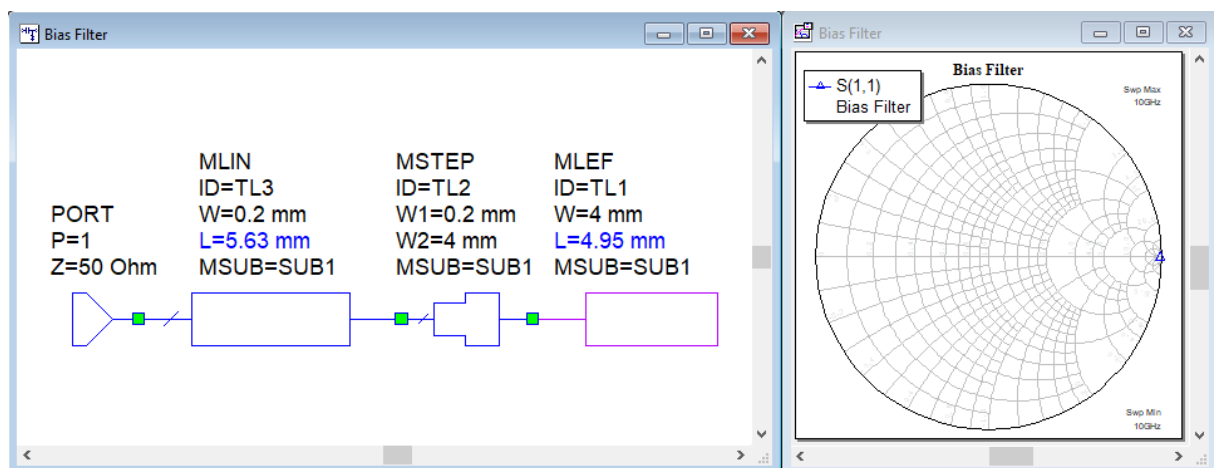

Fig. 9 Series combination of high- and low-impedance transmission line sections forming a bias filter acting as an open circuit at design frequency.
- Add discontinuity MSTEP and MLIN with  $W = 0.2$  mm and length  $\lambda_g/4$ . Tune TL3's length to produce an open circuit at design frequency as shown in Fig. 9.